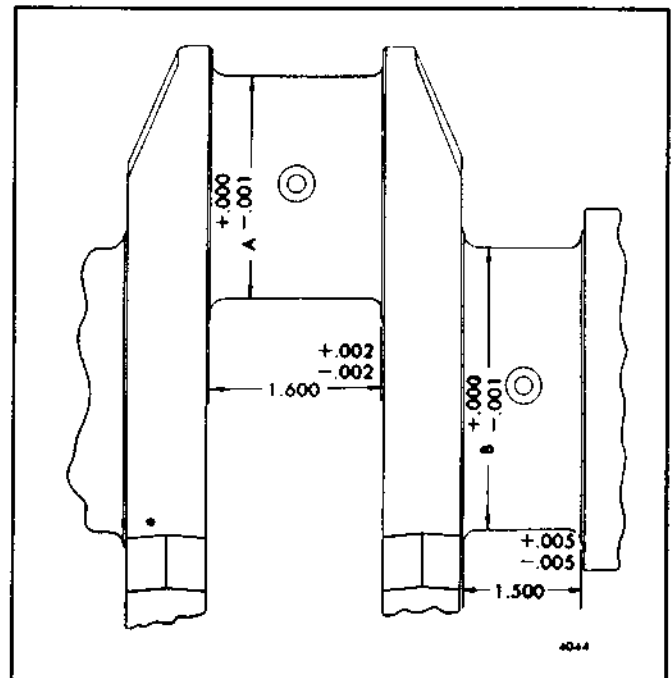

Fig. 7 - Dimensions of Crankshaft Journals - In-line Engine
1. Compare the crankshaft journal measurements taken during inspection with the dimensions in Table 1 and Figs. 7 or 8 and determine the size to which the journals are to be reground.
Measurement of the crankshaft journals, and comparison of these measurements to the diameters required for various undersize bearings shown in Figs. 7 or 8 and Table 1, will determine the size to which the crankshaft journals must be reground.